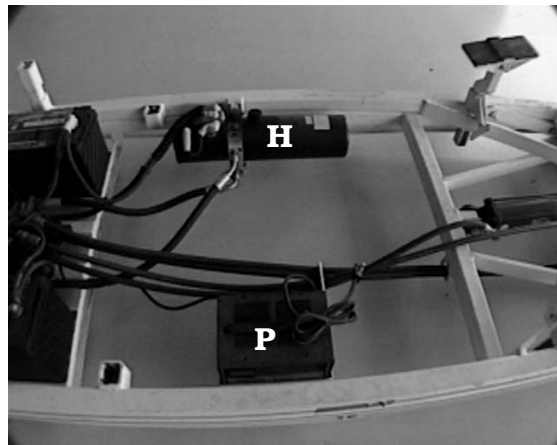

Fig. 3
2. Check the hydraulic fluid level monthly. Fill to 1/2 of reservoir capacity with the platform in full “down” position. (Fig. 3)
3. If stored outdoors, cover the charging system with a waterproof cover when not in use. (Fig. 3)
6. Plug the charging system into AC electric receptacle for system recharging as necessary. (Fig. 3)